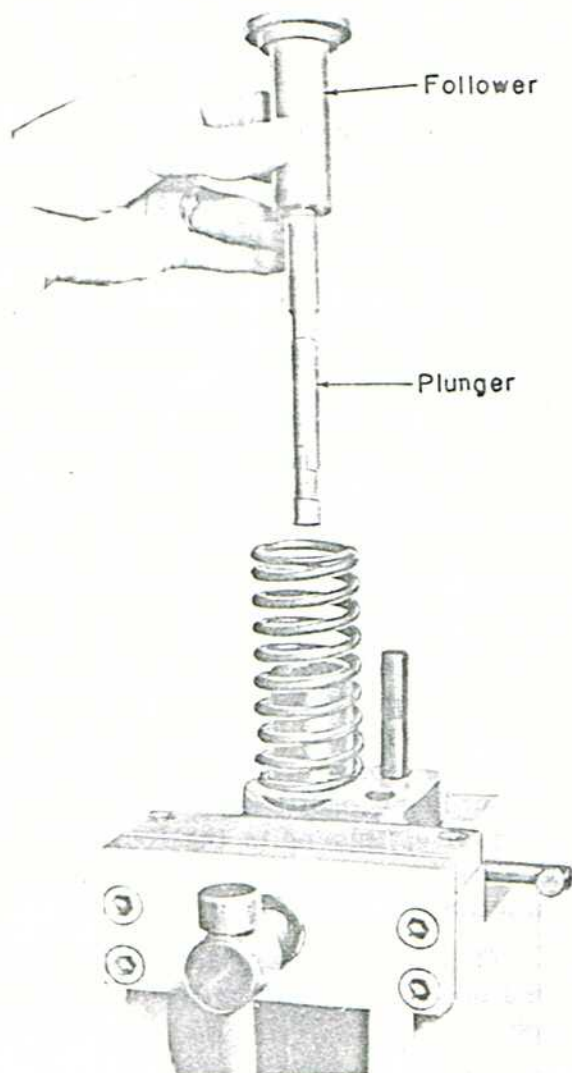

Fig. 5 - Removing Follower And Plunger
4. Carefully lift the follower and plunger from the injector, Fig. 5. Disengage the plunger from the follower and remove the follower spring.